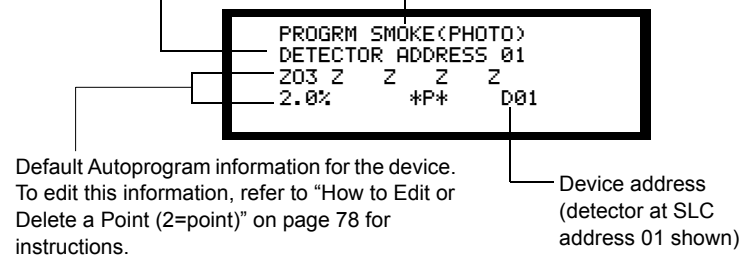

Figure 57 Sample New Device Screen
3. When finished identifying SLC devices, the LCD displays the first detector or module in the following order: detectors in address order (D01, D02, and so on), monitor modules in address order, and control or relay modules in address order. For example, Figure 57 shows a sample screen for a new device identified by the control program during autoprogram.